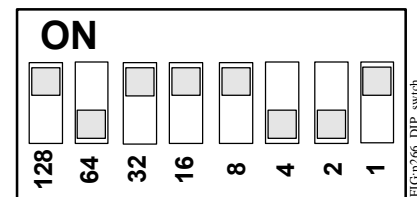

Figure 8: A DIP Switch Block with the Switches Positioned for a Setup Value of 185
2. Position the numbered switches to ON so that the total of the switch numbers (in the ON position) equals the desired setup value. Start with the highest number switch that is less than the setup value. (For example, if the desired setup value is 185, position switch 128 to ON first. Then position switch 32 ON, followed by switch 16, switch 8, and switch 1 [$128+32+16+8+1=185$] [Figure 8]).